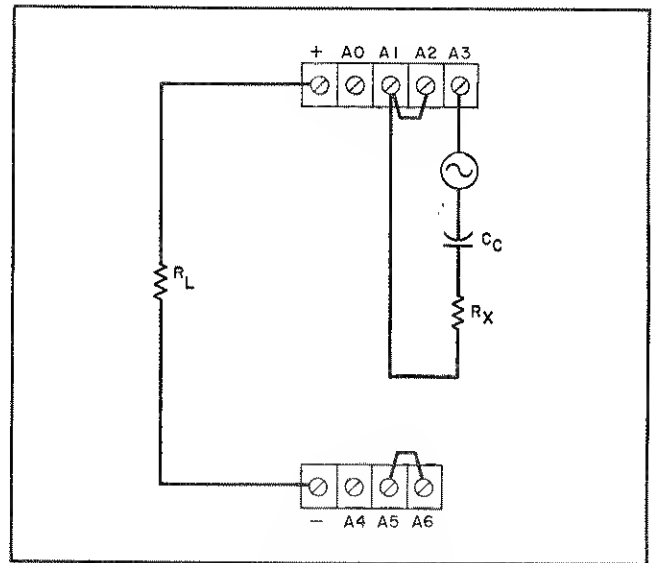

Figure 3-8. External AC Modulation
3-34 Figure 3-8 shows a method of superimposing an ac component on top of the adjustable dc output current of the supply. The dc current level is controlled in the normal fashion from the front panel, while the ac component of the output current is determined by the modulation percentage. The percentage of modulation is determined by the amplitude of the external voltage input and the value of the series resistance according to the following formula: $\% \text{ Modulation} = 100 \left[\frac{E_{\text{source}} (p-p)}{R_X} \right]$ (in $K\Omega$). The programming voltage appearing across terminals A1 and A3 should be limited to 10V p-p and must not exceed 12 volts if damage to the instrument is to be avoided. Using the above formula, the user would require an external resistance of $2K\Omega$ and a 4 volts peak-to-peak input signal from the external source to modulate a dc current level of 50mA by 100%. In this case, the output current would swing between 100mA and zero amperes. The output current should never be
- Connect external modulation source, coupling capacitor, and series resistor between terminals A1 and A3 as shown in Figure 3-8.